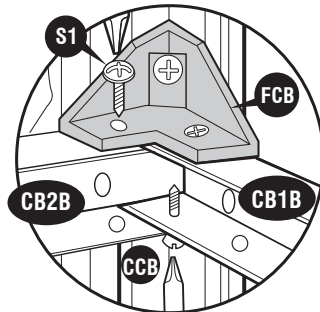

Fig. 2 : Use (S1) screws. Fix (CB2B) to (FCB) and (CB1B).
12. Stabilize the side panels with center bands (**CB3LB**) & (**CB2B**). Fix the center band fitting (**FCB**) to corner column (**CCB**) See Fig.1 Follow the Fig. 2, 3, 4 & 5.